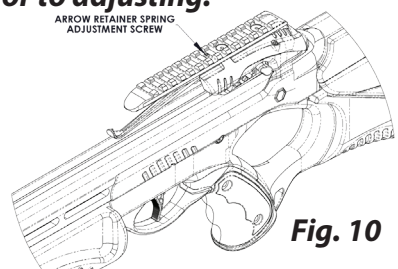

Fig. 10
- To adjust the *composite* style retainer spring turn the set screw clockwise to tighten pressure on the arrow and counterclockwise to loosen pressure on the arrow. (**See Figure 10**)